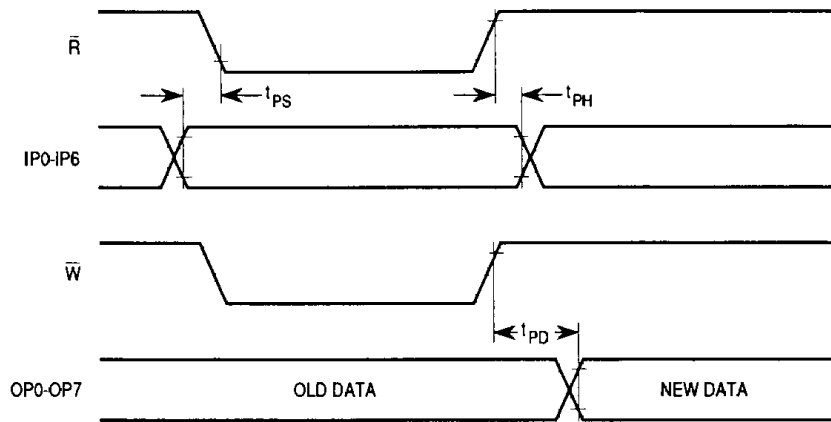

Figure 5. Port Timing
**AC ELECTRICAL CHARACTERISTICS — PORT TIMING** (see Figure 5)